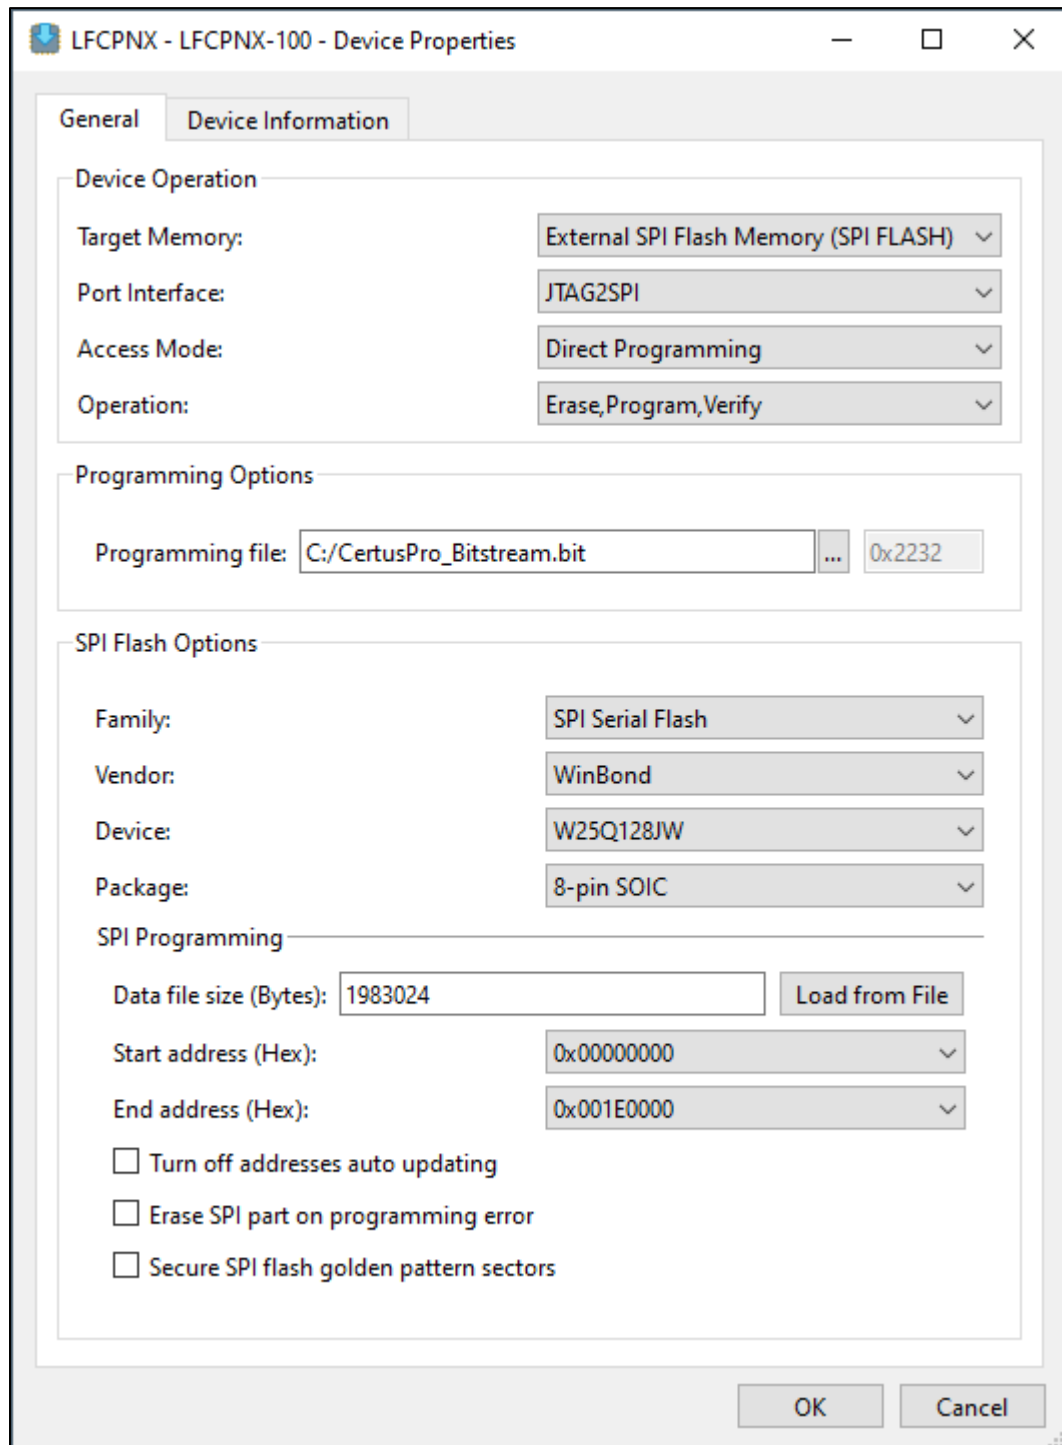
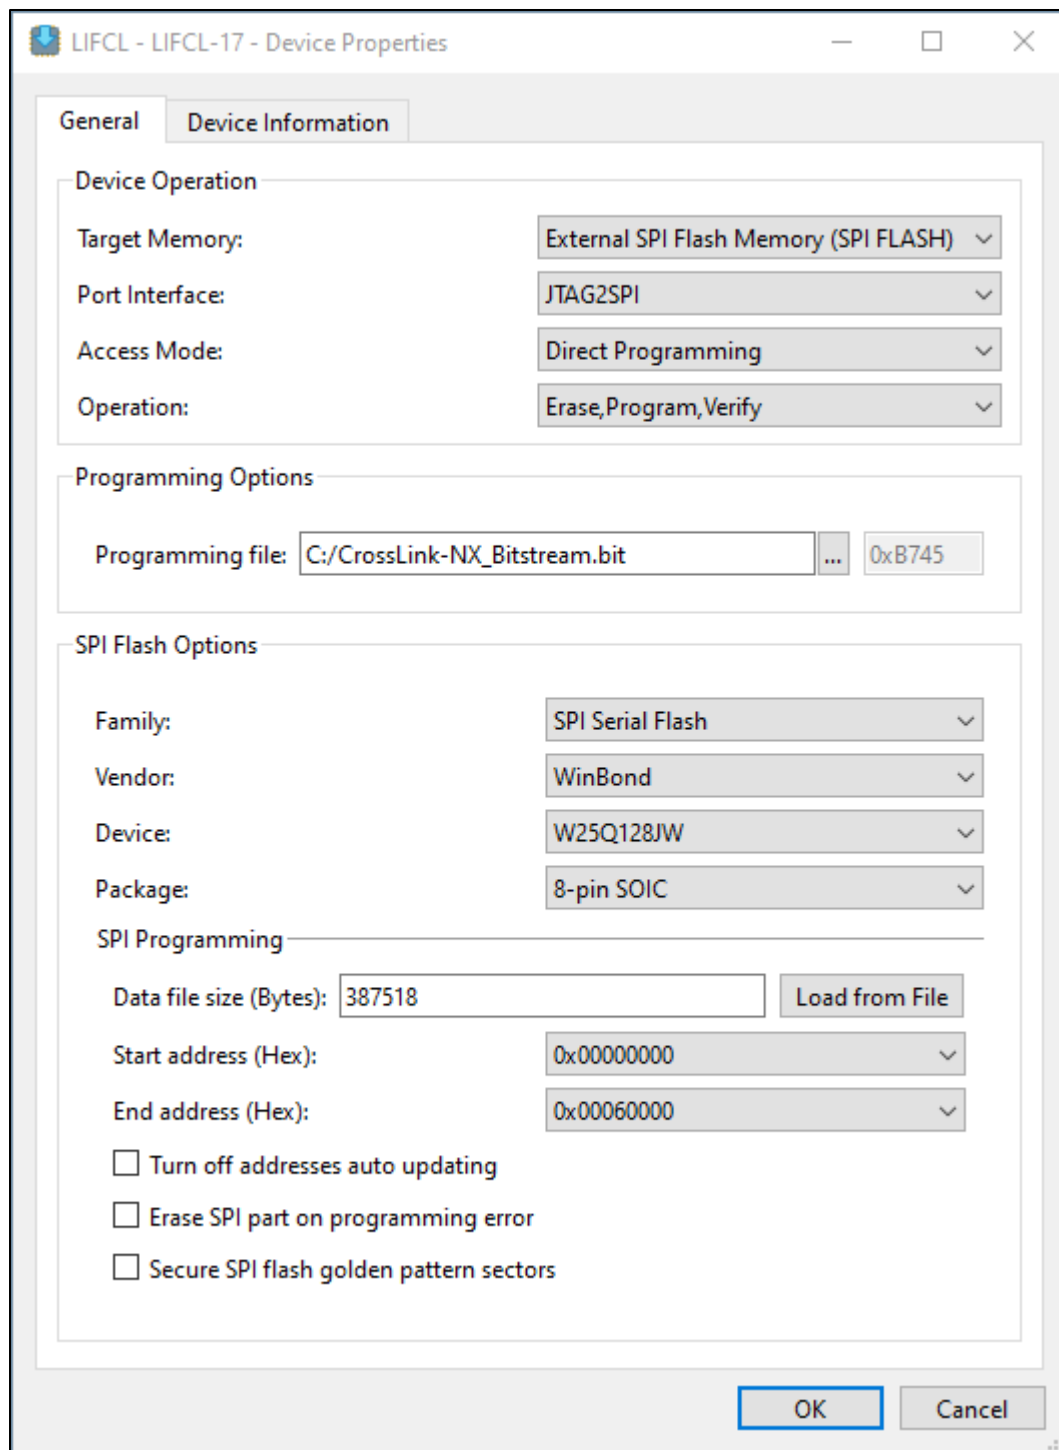

Figure 3.10. External SPI Flash Memory (SPI Flash) Device Properties Window – CertusPro-NX
Figure 3.11. External SPI Flash Memory (SPI Flash) Device Properties Window – CertusPro-NX
- Double-click on the **Operation** field and select the appropriate programming mode. In this example, **Erase, Program, Verify of External SPI Flash Memory (SPI Flash)** is selected (Figure 3.10 and Figure 3.11).